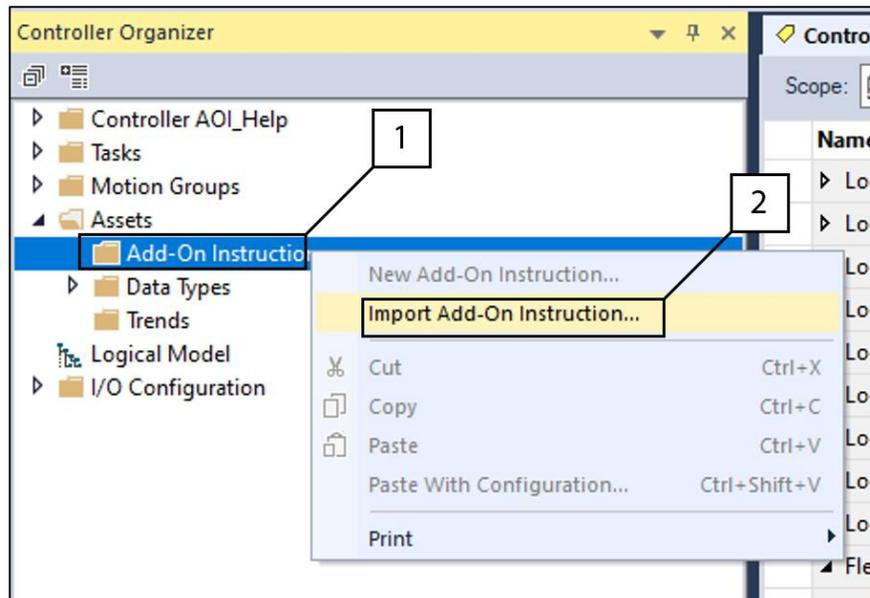

Figure 2 Controller Organizer – Add-On Instructions – Import Add-On Instruction
1. From the Control Organizer screen, right-click **Add-On Instructions** (Figure 2 [1]) and select **Import Add-On Instruction...** (Figure 2 [2]).